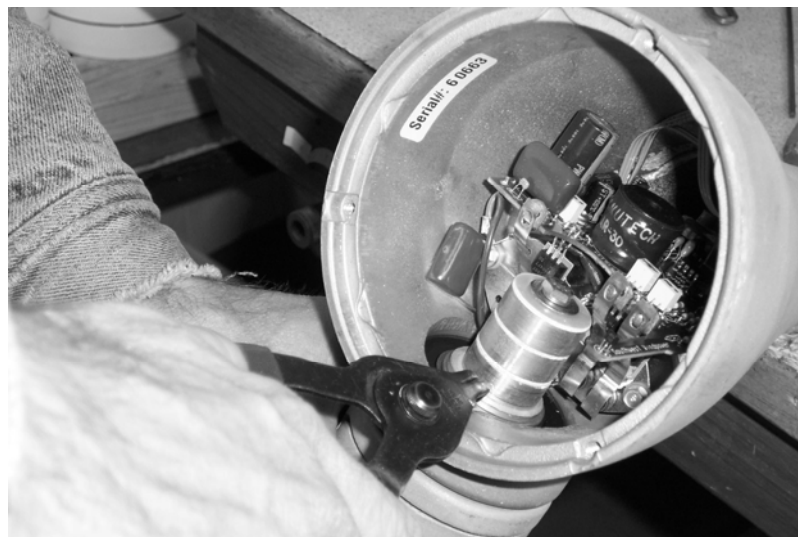

Fig. 2
9. Using the external snap ring pliers, remove the snap ring from its groove located below the slip rings on the yaw shaft assembly. A screwdriver may assist in the removal of the snap ring. See Fig. 2